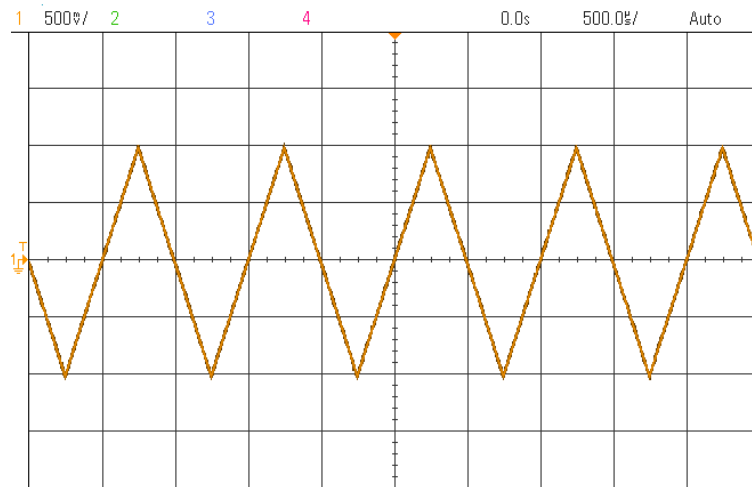

**Figure 72: Setup for modulation output test.**
This test verifies the operation of the modulation engine and the modulation output. It does not test to any specifications. This test requires the setup shown in Figure 72
1. Connect the equipment as shown in Figure 72.